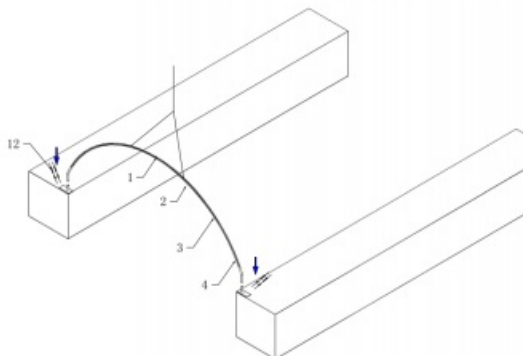

Figure 4
2. Insert and fix the arch frames onto the base plates as shown in Figure 4.
2. Put the first group to insert the base plates as the Figure 4 below and fix it by using Part (No.12)Iron plate.